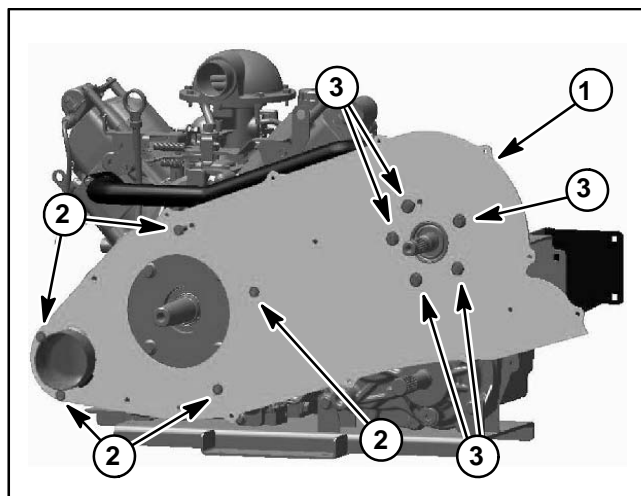

Figure 54
5. Remove spanner plate from engine and transmission (Fig. 54):
A. Remove five (5) washer head screws that secure spanner plate to air inlet housing on engine.
B. Remove five (5) flange head that secure plate to transmission.